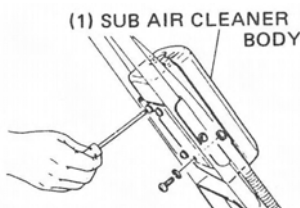

Fig. 9
- a. Mount the air cleaner body to the cleaner bracket using 4 pcs. 5 × 14 bolts, 4 pcs. 5 mm washers and 4 pcs. 5 mm spring washers. (Fig. 9)